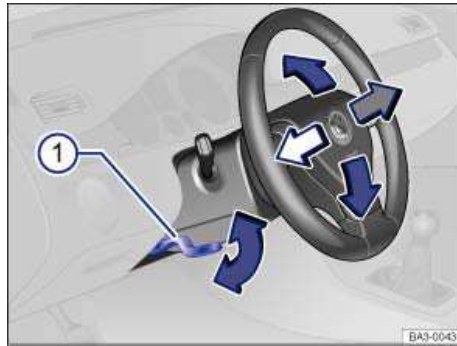

Fig. 64 Manual adjustment for the steering wheel position.
- Push down on the lever ⇒ fig. 64 \(1\).